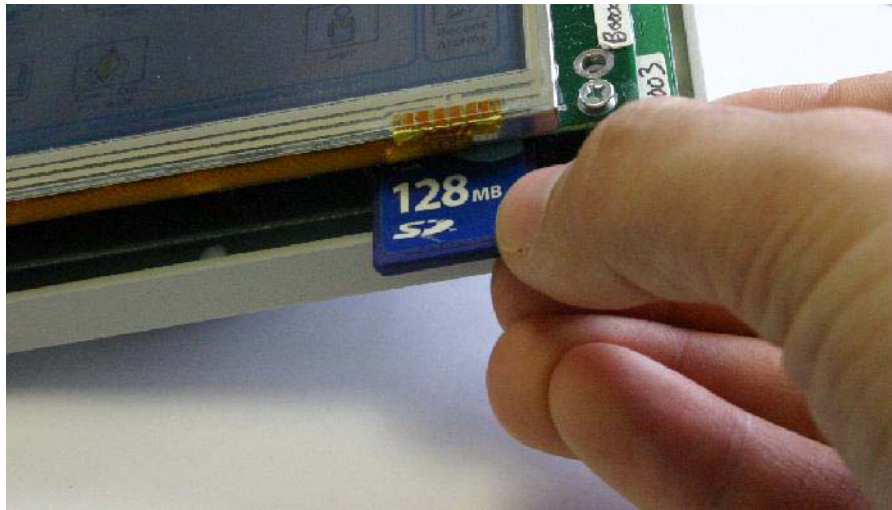

Figure 4-18 Loading an SD-Card into NB-SD
2. Locate the on-board SD card socket. It is located behind the bottom right corner of the display screen, as shown in Figure 4-18. Insert the SD card into the socket. The card socket uses a spring-loading mechanism to hold the card, therefore, a click noise will occur when the card is pushed up into the socket.